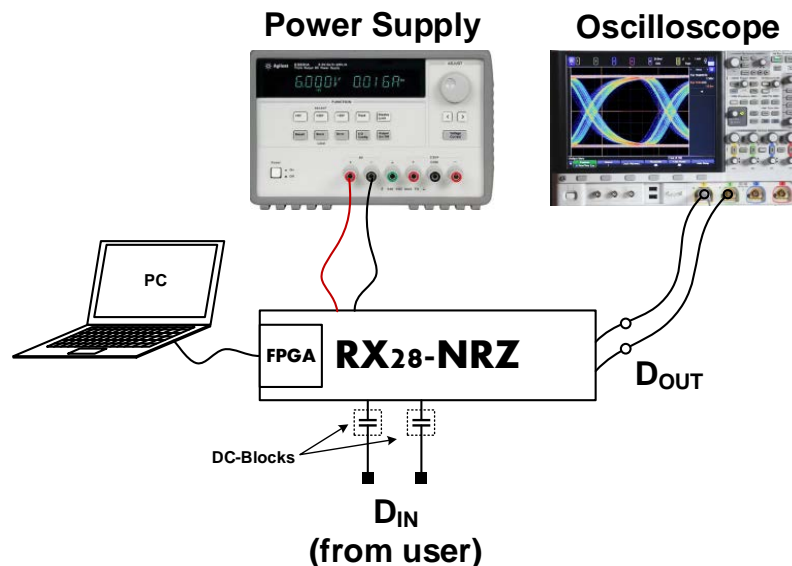

Fig. 9. RX28-NRZ Operation Setup Example. (RX)
- **RX28-NRZ** operation and setup example is shown in Fig. 9.